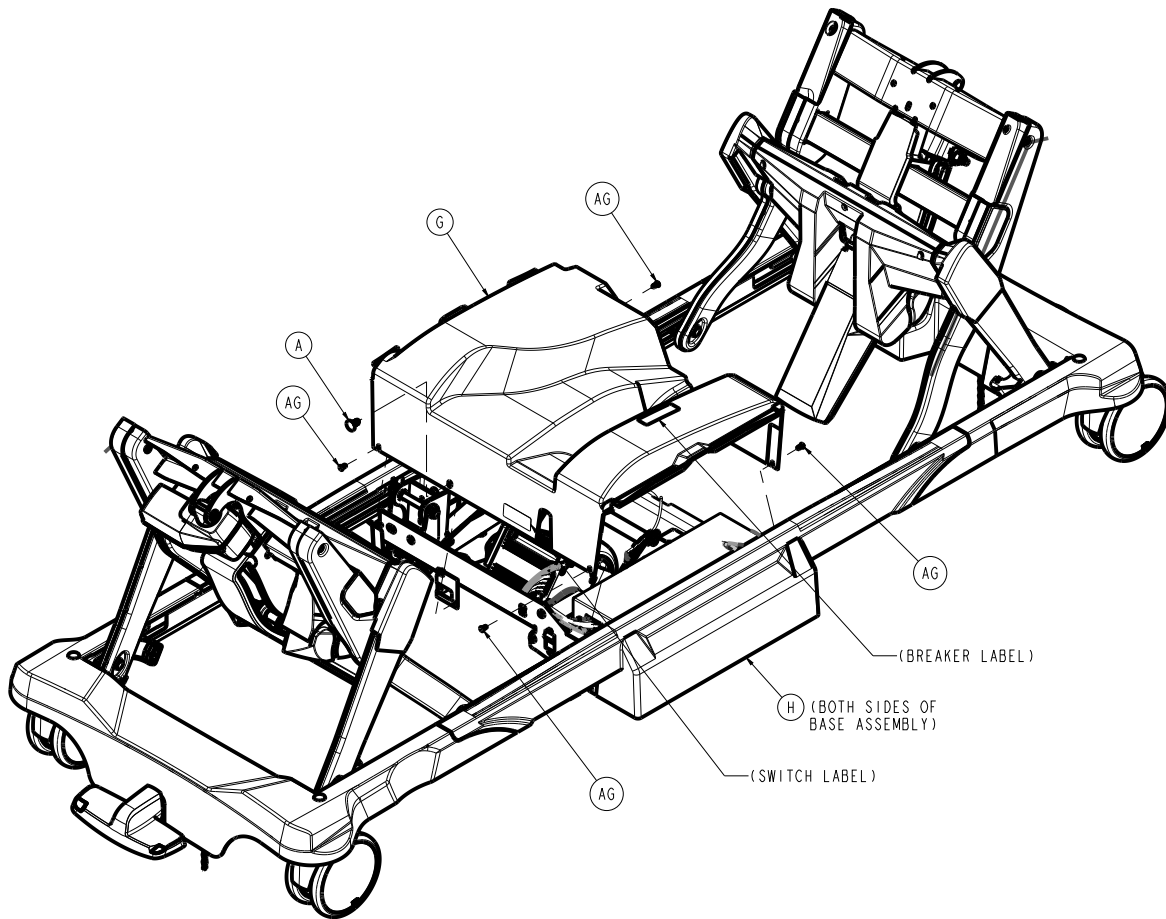

Figure 63 – Removing the Zoom cover
6. Remove the two push rivets (AG) that secure the outer base cover (H) to the **Zoom** cover (G) (Figure 63). Save the rivets and outer base cover. Repeat for the opposite side.
8. Remove and save the **Zoom** cover (G) (Figure 63).